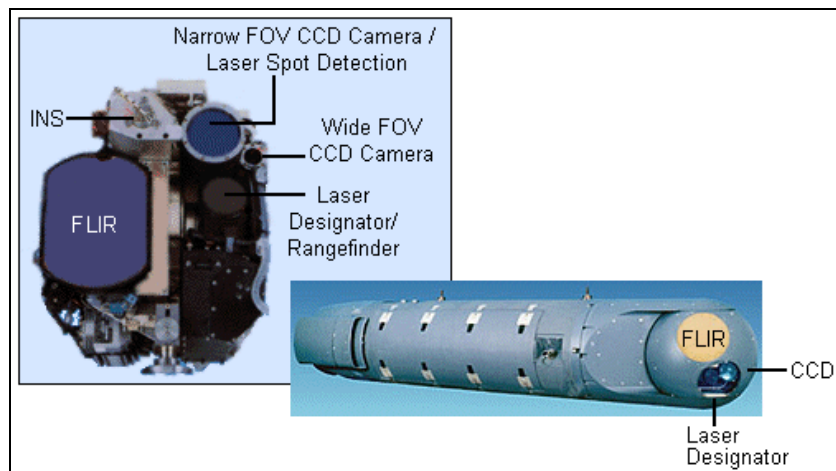

Figure 16 – LITENING II targeting pod
2. A Charge-Coupled Device (CCD) is one of two main types of image sensors used in digital cameras. When a picture is taken, the CCD is struck by light coming through the camera's lens. Each of the many (i.e., millions) of pixels that make up the CCD converts the light into electrons, which are converted to a digital value. Very high detail in the output. Charge-Coupled Devices (CCD) (figure 16) provide excellent visual acuity and the ability to operate in lower light levels. This can significantly improve daytime performance when compared to a FLIR sensor. CCD's are found on newer generation Electro-optical systems (figure 16).